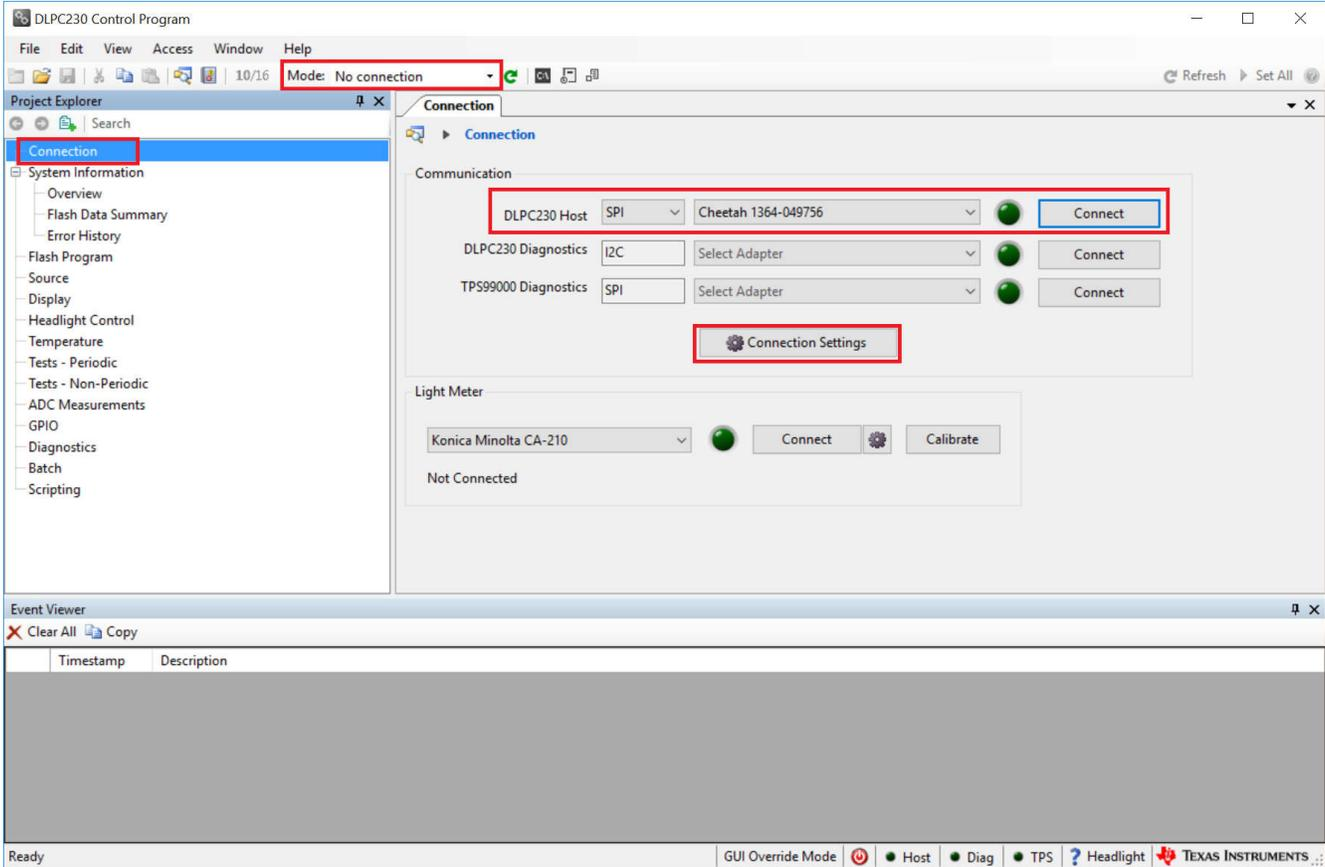

Figure 3-3. Connecting to the DLPC230-Q1 Using the DLPC230-Q1 Automotive Control Program
3. -On the *Connection* page, set the DLPC230-Q1 Host to SPI and select the Cheetah from the drop down menu (see Figure 3-3). Note, the Cheetah must be connected to computer with USB cable for the Cheetah to show up in the drop-down menu.